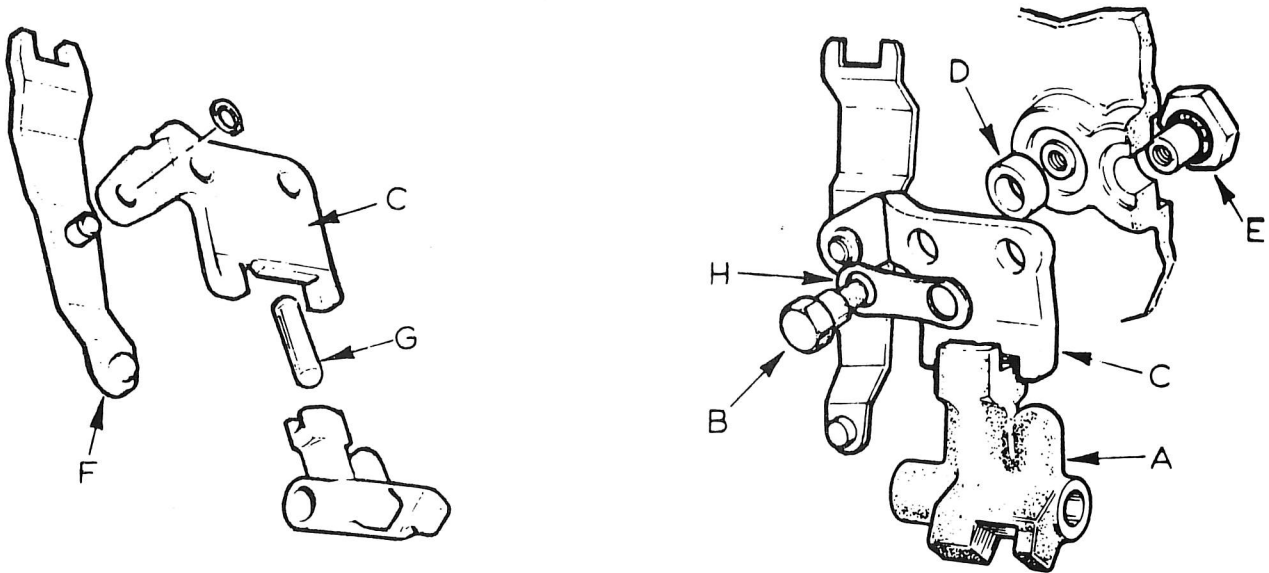

Fig. 38. 5th./REVERSE OPERATING LEVER AND SELECTOR INTERLOCK
6. Fit plunger (A, Fig. 38) into selector interlock. Fit 5th/Reverse operating lever (B, Fig. 38) to interlock plate (C, Fig. 38), by inserting its peg through the single hole in plate. Secure with 'thin' circlip, noting that its 'flat' face is towards end of pin - this to resist the thrust. Ensure plunger is still in position, then fit plate in selector interlock. Secure plate to casing with retainers and bolts; from exterior of casing, insert retainers (D, Fig. 38) to which their 'O' rings have already been fitted. From inside the casing, use securings in order of: bolts (E, Fig. 38), tabwasher (F, Fig. 38), then through interlock plate, spacers between plate and casing, and finally into the previously fitted retainers. Torque load the bolts to 20 lbs. ft. (2.76 kg.m.)